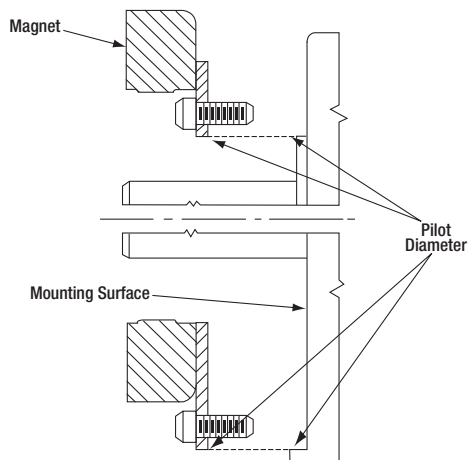

Figure 1
1. A pilot diameter on the mounting surface is essential to hold the magnet within the required tolerances (see Figure 1).